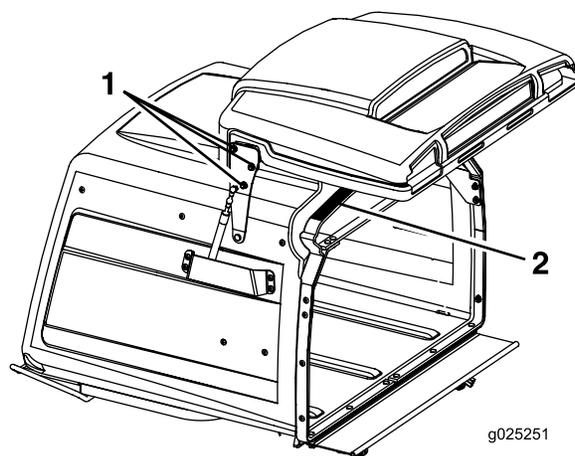

**Figure 59**
3. Locate the brake spring and thread the 2 jam nuts out to the end of the brake-spring rod (Figure 59).